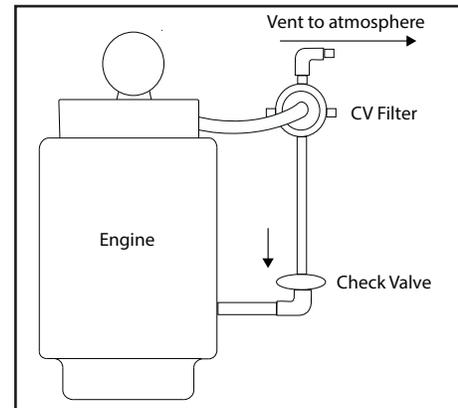

Figure 3: Diagram of a OCV system assembly - Arrows show flow direction.
1. Loosen the eight 8 mm (5/16") hex head bolts holding the coalescer cover and base together (Figure 3). Lift the cover off the base.